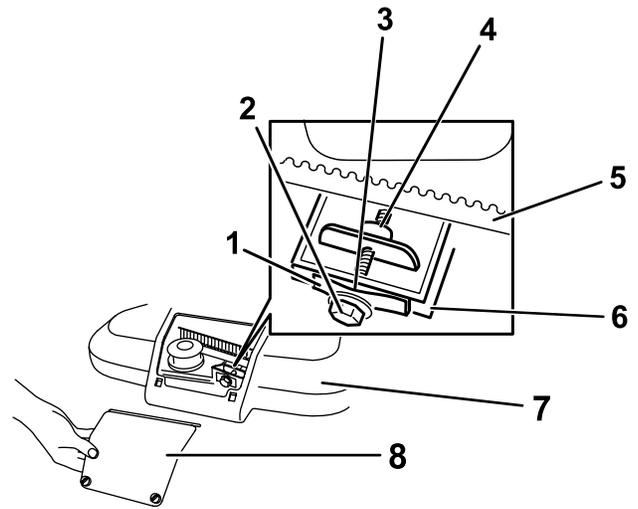

Figure 36
1. Loosen the 2 screws on the belt-cover-access panel and remove the panel (Figure 36).
Note: If there is a visible gap between the gauge and the spring, tighten the adjusting bolt and the nut until the feeler gauge barely slides freely in and out of the gap (Figure 36).